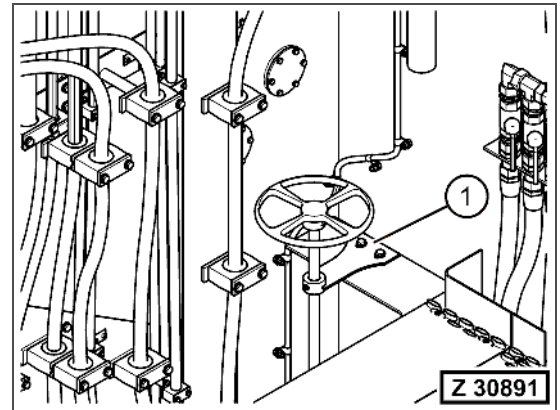

Fig. 3-261
3. Install the bracket (Fig. 3-261, Pos. 1) at the frame.